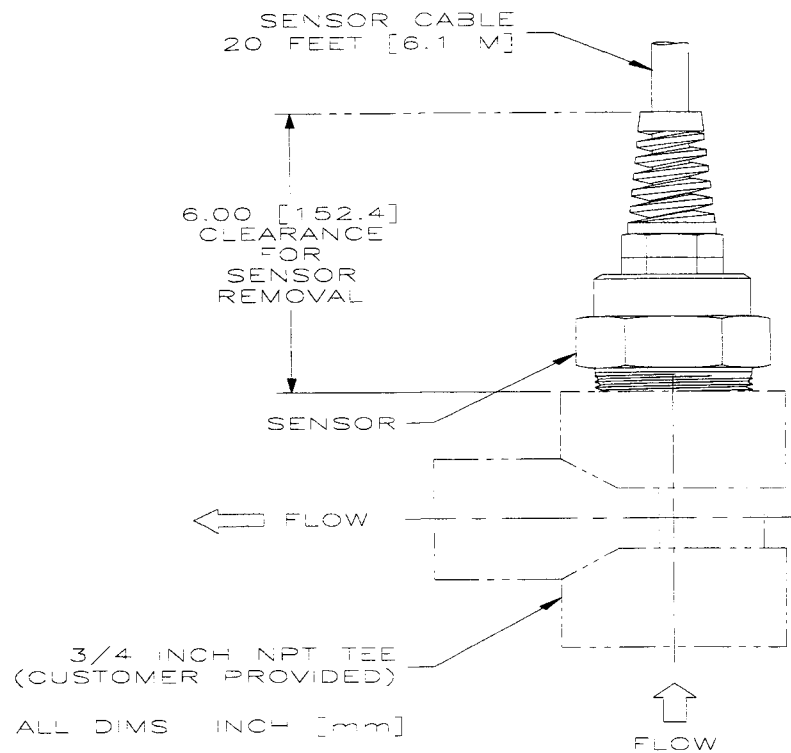

FIGURE 2-3 Installing Sensor Into Pipe Using a Tee
1. Refer to Figure 2-3, and install a 316 stainless steel pipe tee of appropriate size (1/2 to 2 inches) into the process pipe. **Recommendation:** Use a 3/4-inch pipe tee. If necessary, screw a respectively-sized reducer into the pipe tee.